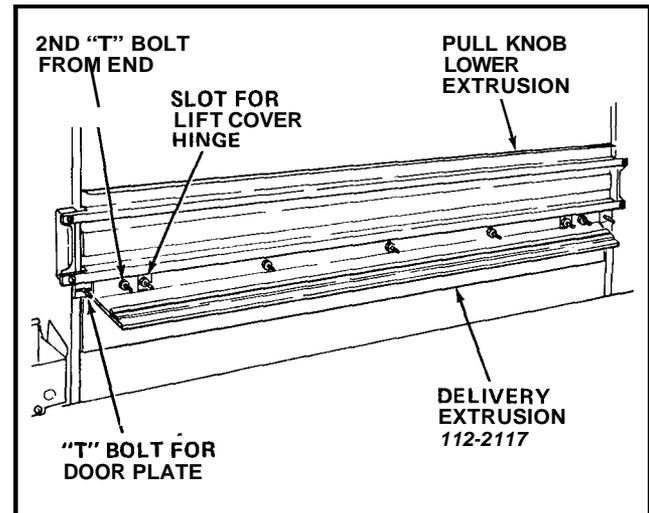

FIGURE 6
10. Install the Delivery Extrusion, part number 112-2117, included in the Kit. This Delivery Extrusion replaces the Extrusion removed in step 5. At each end of the Extrusion a "T" Bolt extends through the last hole in the Extrusion. Loosely attach the Extrusion by placing a Nut on each of these two Bolts. See Figure 6.